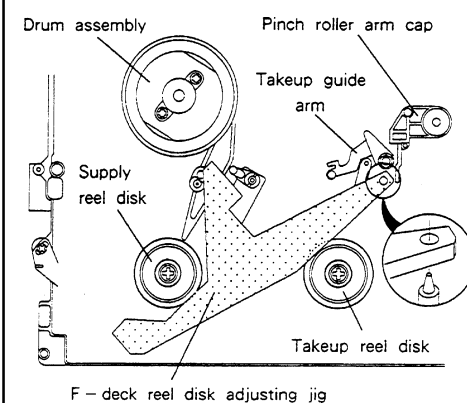

Fig. 2-10-6
- Place the reel disk adjusting jig (Part Number 859C342020) in the reference position on the main plate. (Refer to Fig. 2-10-6.)
- Place the reel disk adjusting jig (for the F deck) in the reference position on the main plate (Refer to Fig. 2-10-6). Tighten the